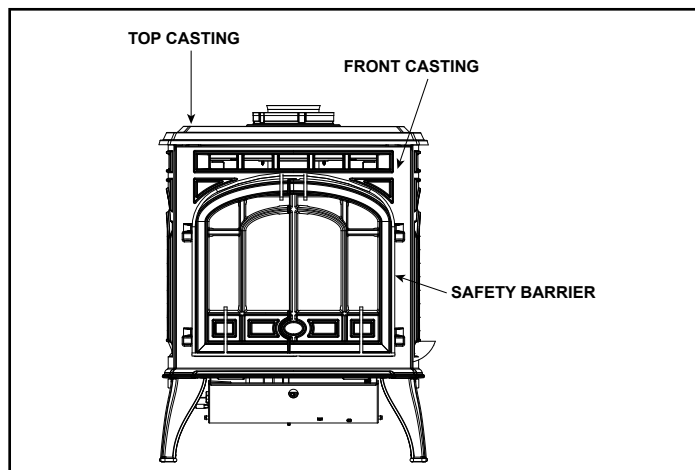

Figure 4.1 Remove Casting
- Remove front casting by grasping it at the top and lifting up. If the stove is already installed in a top vented configuration, the top casting will need to be lifted slightly to accommodate removal of the front casting. See Figure 4.1. Set front casting aside on prepared work surface.